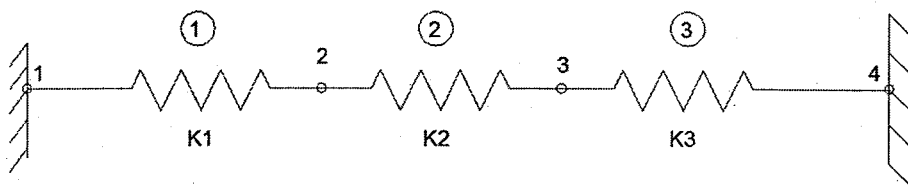

Figure 1
1. For a spring assemble shown in figure 1. $K_1 = 1000$ N/mm, $K_2 = 2000$ N/mm and $K_3 = 3000$ N/mm, A point load of 1000 N (rightward) is acting at node 3, obtain : **18**